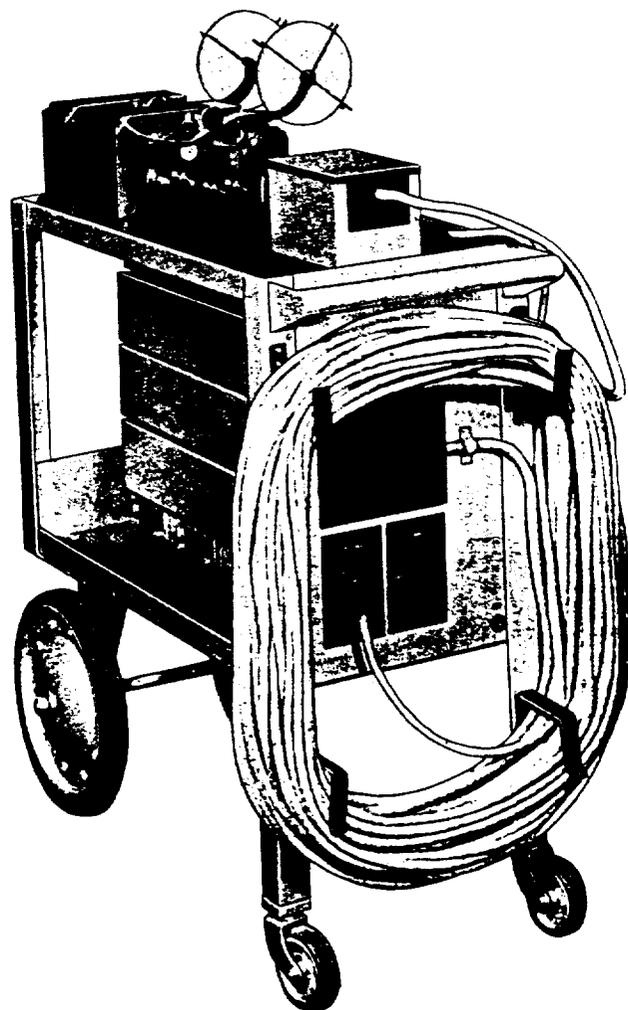

Fig. 1 - Line Busy Recorder Unit and
2.01 The recorder is a portable equipment mounted on a small table type test wagon as shown in Fig. 1. The recorder unit is equipped with flexible cords to connect it to the connector shelf to be observed, and to two pen registers.